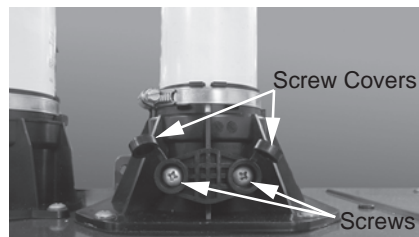

Figure 61 - Emissions port screw removal
- 5 Remove screws and set aside in a safe place for reinstallation. See Figure 61.